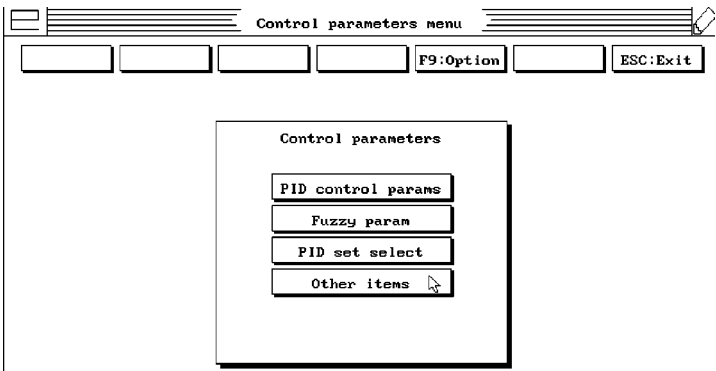

Figure 16
1. To set the cooling coefficient, from the **Setting Menu <Offline>** select the **Control params** button. The pop-up menu **Control parameters** appears (Figure 16).